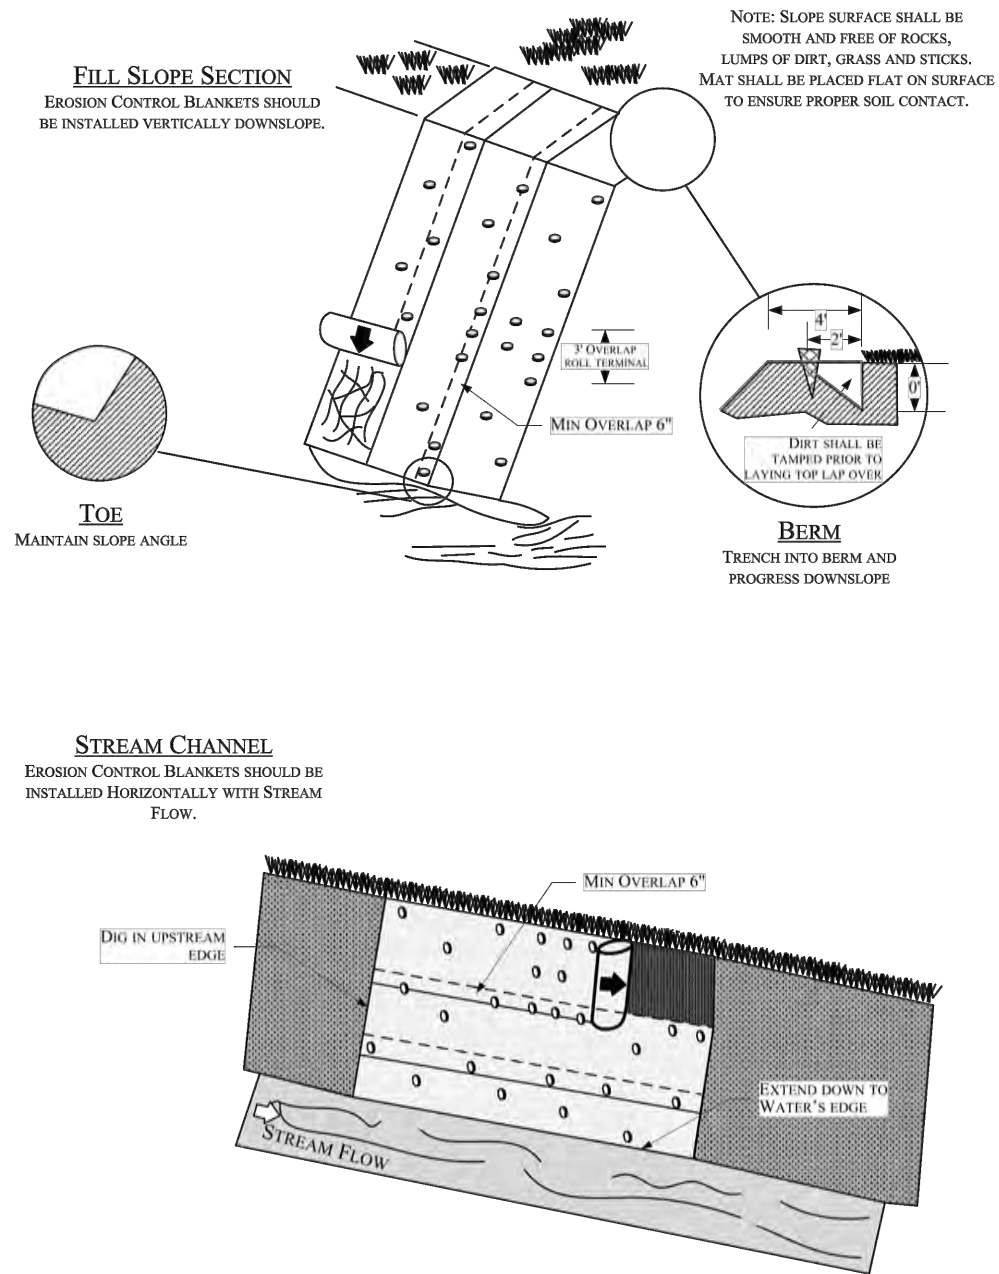

Figure 7
- b. EPP Section 8.5 – Erosion Control Blanket (ESCP Sheet A11 - Figure 7)